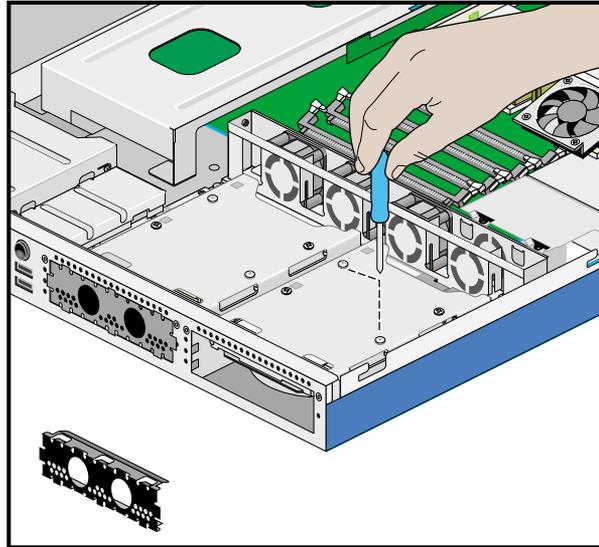

Figure 2-37 Removing Two of Four Hard Disk Drive Screws
4. Remove two of the four screws that attach the hard drive to the chassis as shown in Figure 2-37. The first two screws that you remove should be diagonally-located.